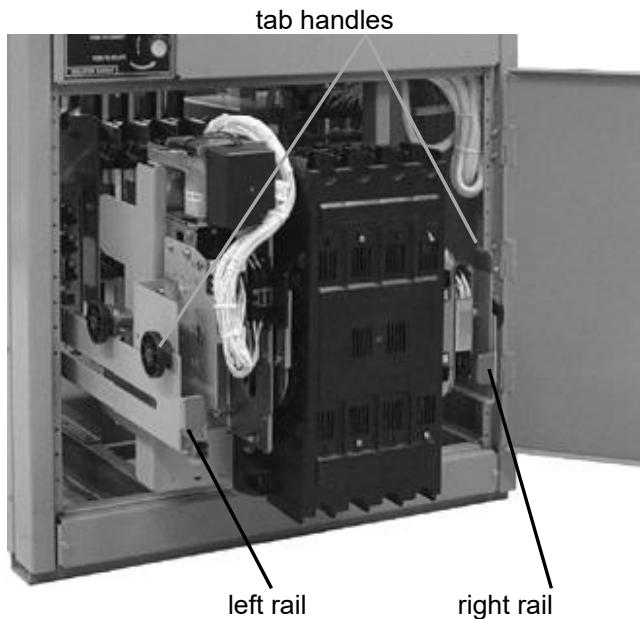

Figure 19 .Transfer switch isolated and pulled out for inspection.
- Open the lower enclosure door. Pull out both left and right side rails then use the two tab handles to roll out the transfer switch. It can be safely inspected in this position. The transfer switch can also be removed for easier maintenance operations. See Figure 19.